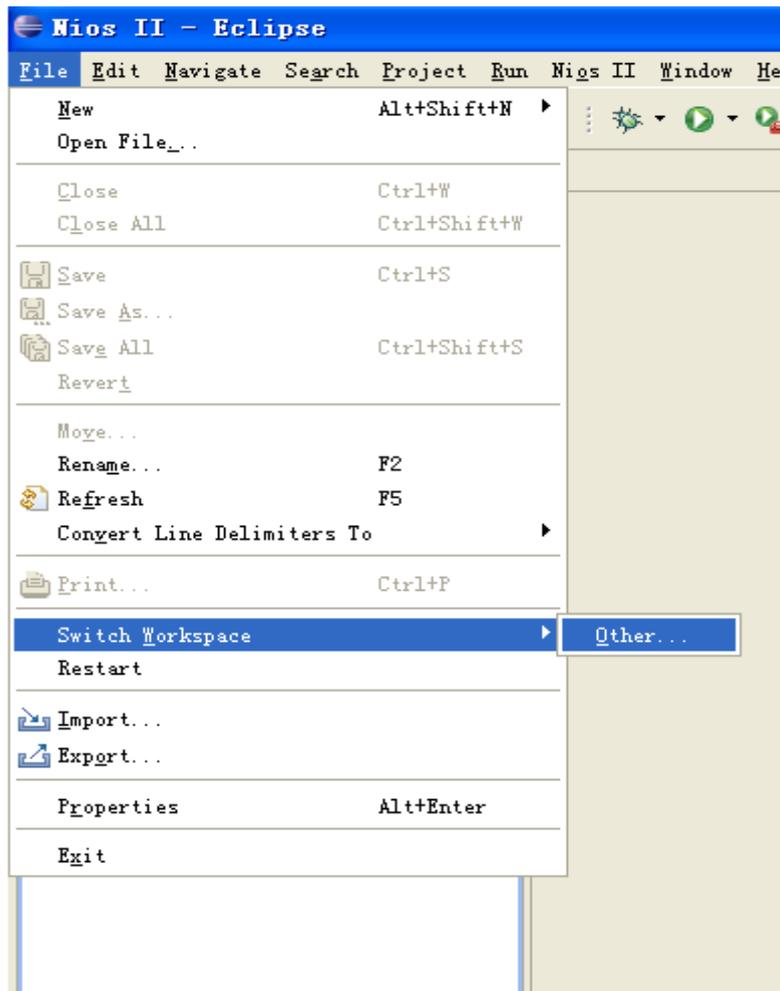
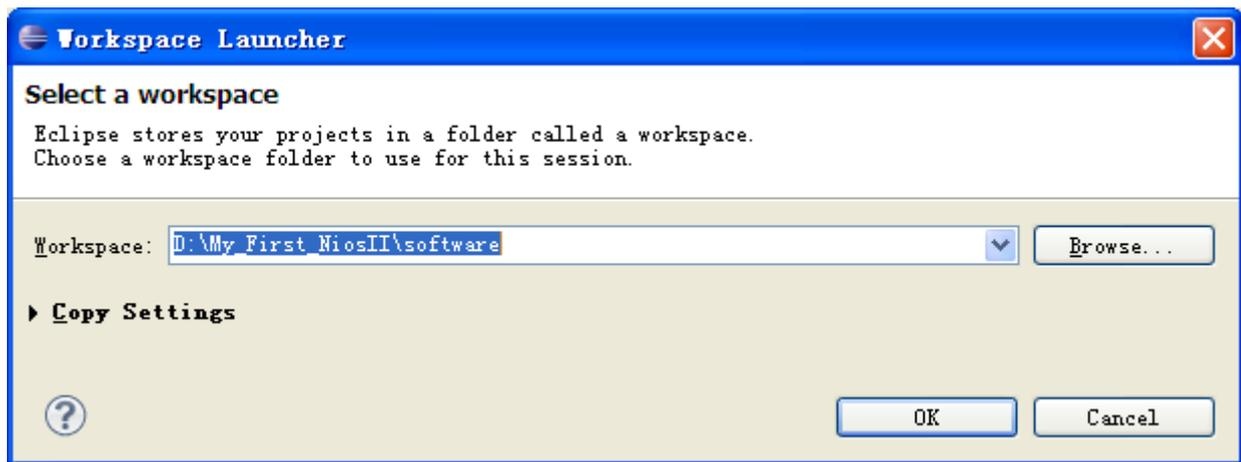

Figure 2-1 Switch Workspace (1)
Figure 2-2 Switch Workspace (2)
2. Choose **File > Switch Workspace** to switch workspace. See Figure 2-1 and Figure 2-2.